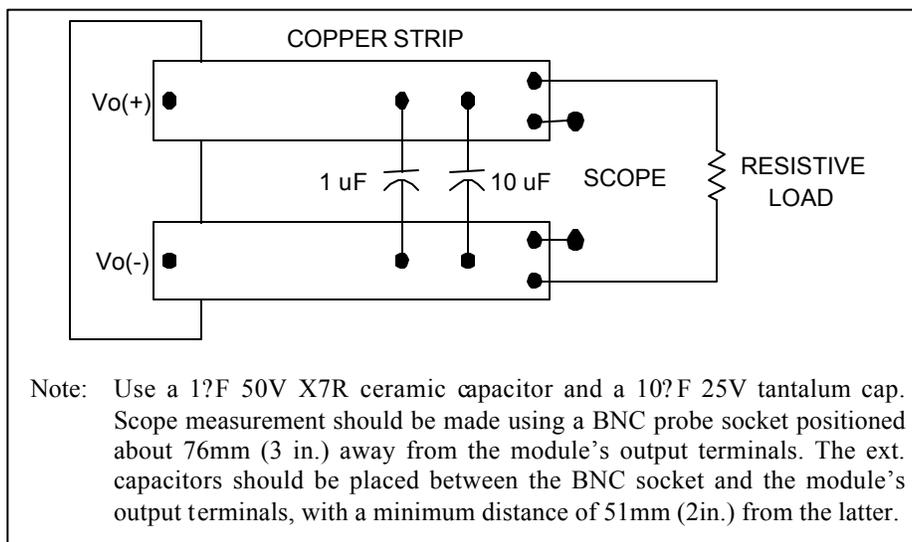

Figure 2. Peak to Peak Output Noise Measurement Setup.
6. Channel under test shall be set to full load with the other channel set to $I_{O,min}$ - See Fig 2 for the recommended ripple and noise test setup.